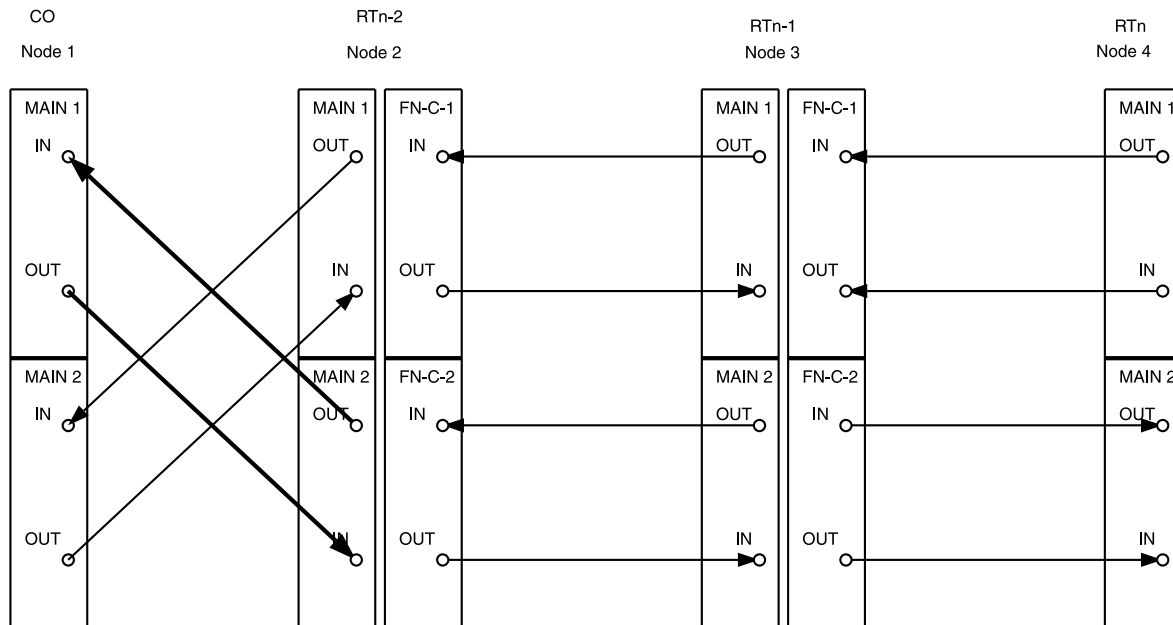

Figure 17 – DDM-2000 OC-3 Drop or Add/Drop Network to Ring Upgrade
28. The example 4-node configuration now looks like that shown in Figure 17. Steps completed between the last RT and next to last RT are repeated as each span is converted to a ring configuration.